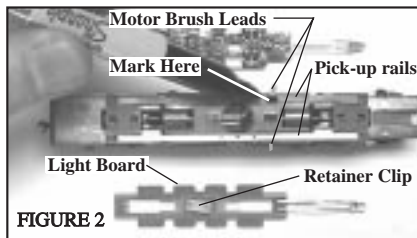

FIGURE 2
4. Mark the LEFT pick-up rail with a marking pen. (See Figure 2). This is to ensure that they don't get mixed up before reassembly.